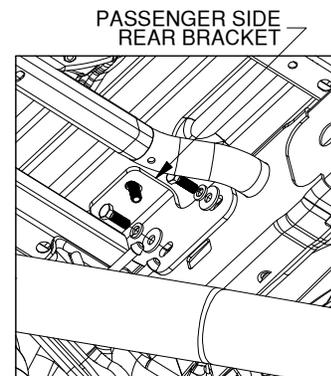

FIGURE C5: View looking up at passenger side frame.
7. **Install the passenger side rear bracket.** Locate the passenger side rear bracket, two M12 x 35mm hex head bolts (shorter), two 1/2" split lock washers, and two 1/2" flat washers. Position the bracket under the installation location of the rear passenger side carriage bolt. Maneuver the bracket so that the 1/2" carriage bolt passes through the slot at the top of the bracket. Using 1/2" lock washers and 1/2" flat washers, Thread the shorter (35mm) M12 hex head bolts into the frame through the holes in the bracket, see Figure C5.